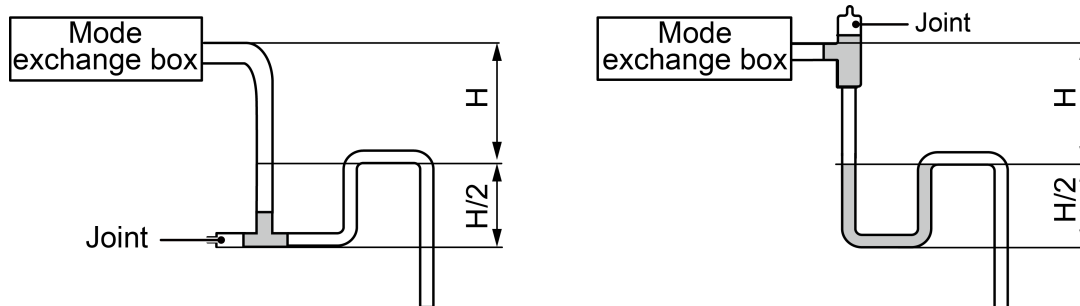

Fig.4.3.6
- (5) Install the trap as shown in Fig.4.3.6.
- (6) One trap should be installed for every unit.
- (7) Convenience for cleaning trap in the future should be considered when installing it.